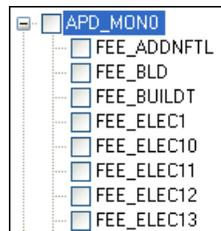

Figure C-2 Database Table expanded to show custom fields
3. Expand a database table icon to view all its associated custom fields (Figure C-2).